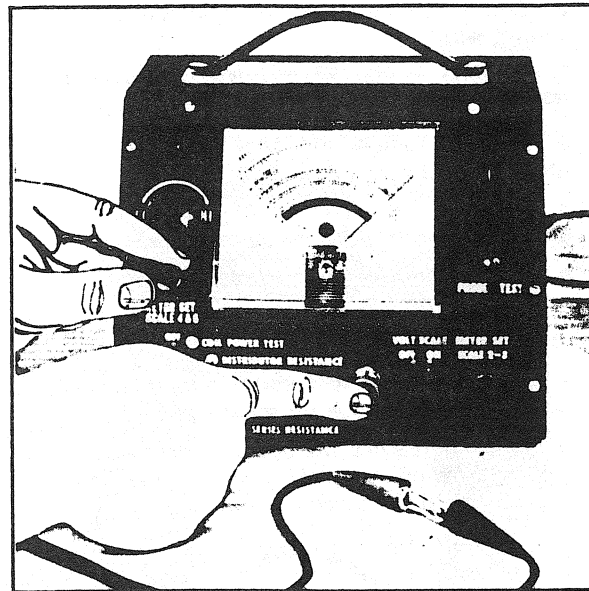

FIGURE 8
- Depress red button, and turn meter adjustment of scale #4 to set pointer on right side of meter (Fig. 8).